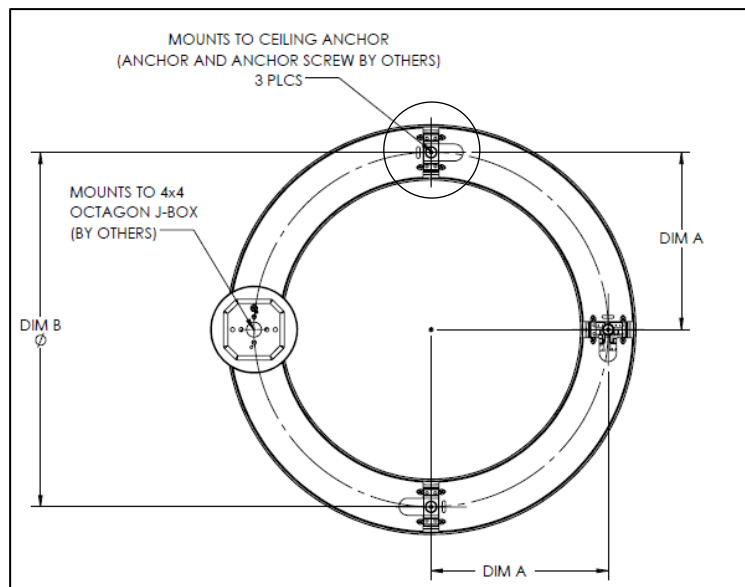

FIG. 6 - TOP VIEW SHOWING MOUNTING VIEW INFORMATION
1. Mark location for the NON-POWERED MOUNTING POINT according to the MOUNTING INFORMATION TABLE and FIG. 6.